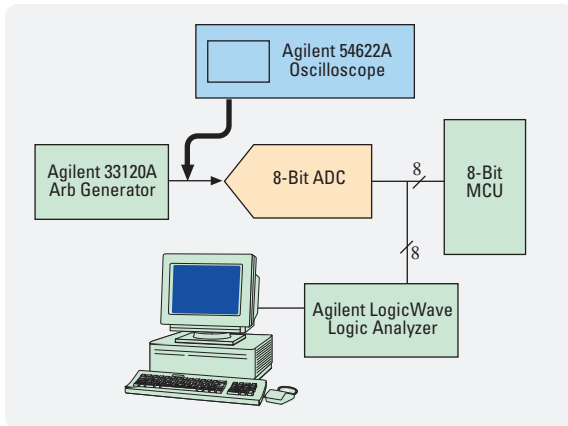

Figure 1. ADC test setup.
**Figure 1. Basic block diagram of the wireless instrumentation system. One analog input on the scope monitored power-up on the MCU while the other monitored the carrier detect signal feeding the transceiver.**
With today's digital revolution in the electronics industry, analog-to-digital converters (ADCs) are increasingly common. ADCs can be found as either stand-alone parts or integrated into microcontrollers as special I/O peripherals. Depending upon the analog input accuracy requirements of your particular MCU-based application, certain ADC specifications may require verification prior to releasing the design to production. This hint shows how to test analog-to-digital conversion integrity using a low-cost oscilloscope, an arbitrary waveform generator, and a PC-hosted logic analyzer (test setup shown in Figure 1). Specifically, this hint will examine differential nonlinearity errors as they relate to missing digital codes of the ADC.